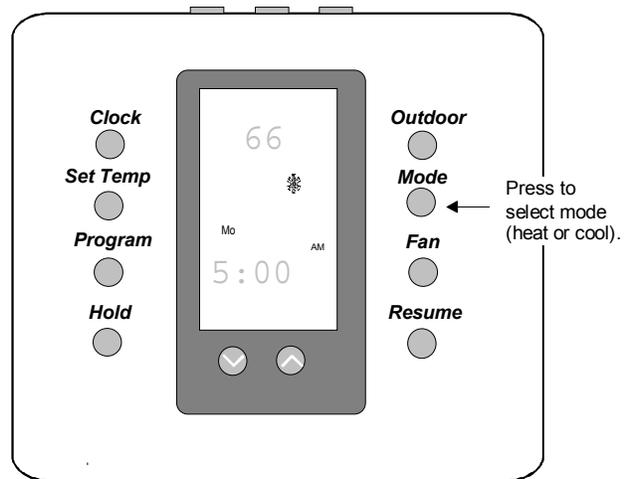

Figure 24: Verifying Proper Operation
1. Press the **Mode** button to select the heat or cool mode. (See Figure 24.)